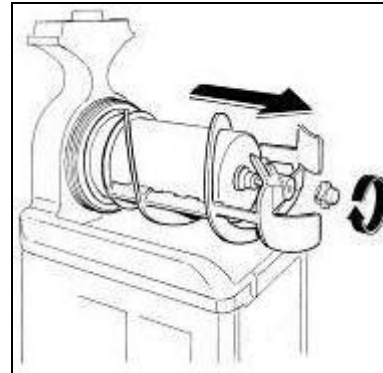

Fig. 16
- Unscrew the security knob in the direction of the arrow (threading on left), then pull out the mixing unit, the bell shaped seal and the bowl gasket on the back (fig.16).